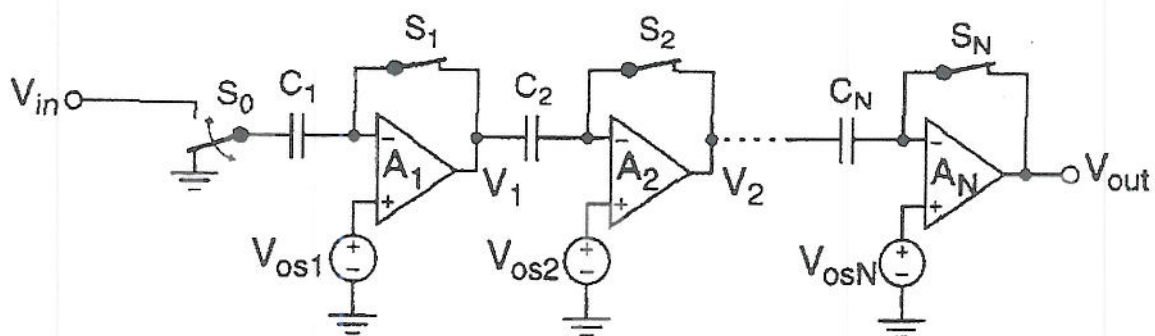

Figure 5.1
- b) Figure 5.1 shows a multistage autozeroing amplifier.